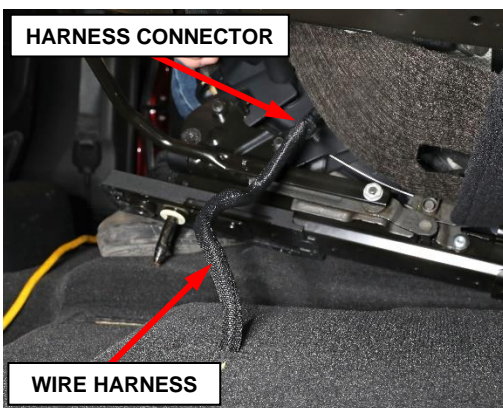

Figure 19 – Seat Wire Harness
14. Second row seats, tilt the seat rearward then disconnect the electrical connector under the seats (Figure 19).